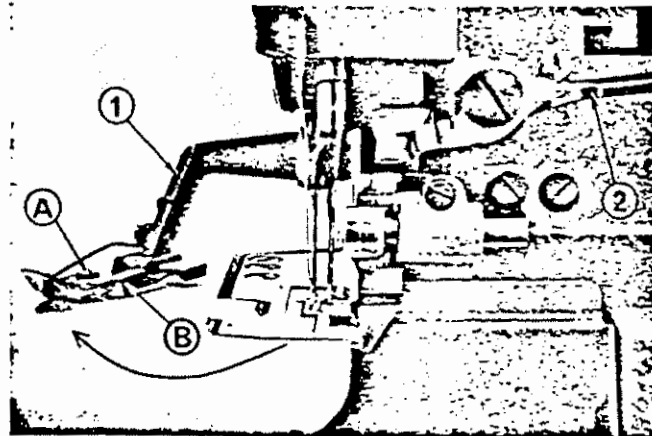

Fig. 17
If you want to release the presser arm ① Fig. 17 to your left, push down the presser foot lifting lever ② and swing the arm ① to your left. To return the arm to the original position, keep the lifting lever ② down and return the arm to the former position.
The overlock width can be adjusted from 2-5 mm ( $1/16 \sim 3/16$ " ) by exchanging the parts, but the parts that come with this machine are all standard types of 3-4 mm ( $1/8 \sim 5/32$ " ) overlock width. To adjust this overlock width, loosen the stitch tongue set screw ①, Fig. 17. If the stitch tongue ② is moved to the right (pulley side) it will become wider and if moved to the left, it will become narrower. When the overlock width is changed, the thread tension, will change also, so remember to adjust the tension, as well.